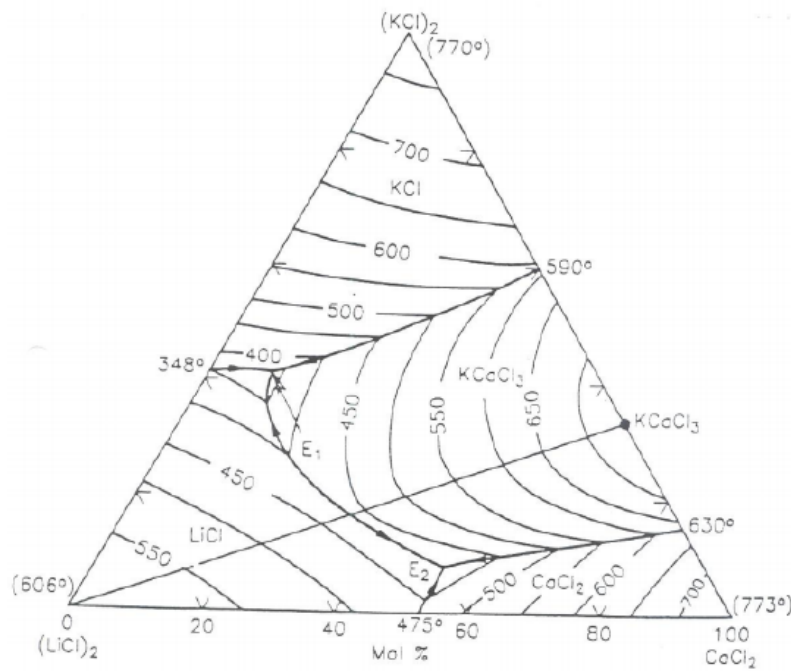

Figure .8: $(\text{LiCl})_2 - \text{CaCl}_2 - (\text{KCl})_2$ phase diagram.
13. On the $(\text{LiCl})_2 - \text{CaCl}_2 - (\text{KCl})_2$ phase diagram shown in Figure .8, draw isothermal sections at the following temperatures: (note- Ternary eutectic E_1 is at 332°C and ternary eutectic E_2 is at 412°C)